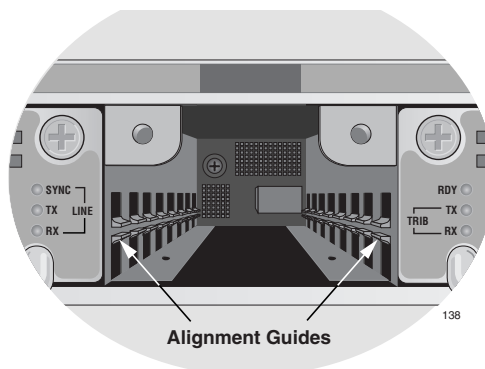

Figure 28. Location of Alignment Guides
4. Locate the left and right alignment guides in the slot, as shown in Figure 28.